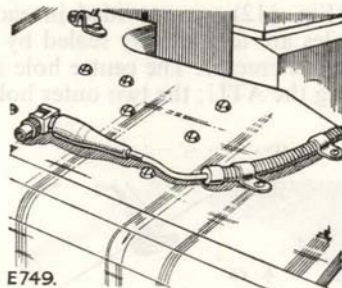
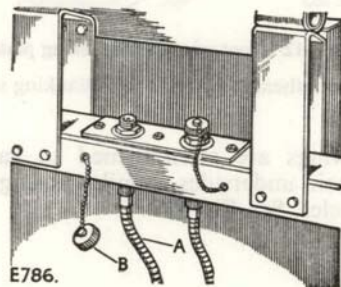
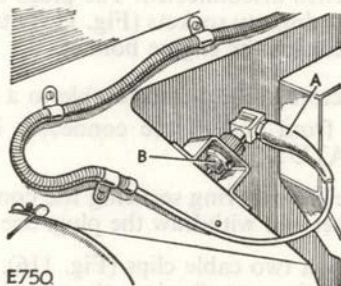

Fig. 113 Aerial co-axials removed from dummy socket and located on front wing
Fig. 114 Aerial co-axials in rear body
Fig. 115 Aerial co-axial and dummy socket on wing valance
322. Two connector co-axials (Fig. 113) are fitted to the vehicle to connect the ATU to the appropriate radio set. The rear end of the connectors (Fig. 114) are stowed vertically at the centre of the driver's compartment seat rest adjacent to the location of the VHF sets. Captive screw caps (Fig. 114) are provided to protect the ends of the connectors when disconnected. The plugs on the front end of the connectors fit on dummy sockets (Fig. 115) fitted to the inside of the wing valance beneath the engine bonnet.
- (1) Unscrew the locking ring securing the connector plug to the dummy socket and withdraw the plug. See Fig. 115.